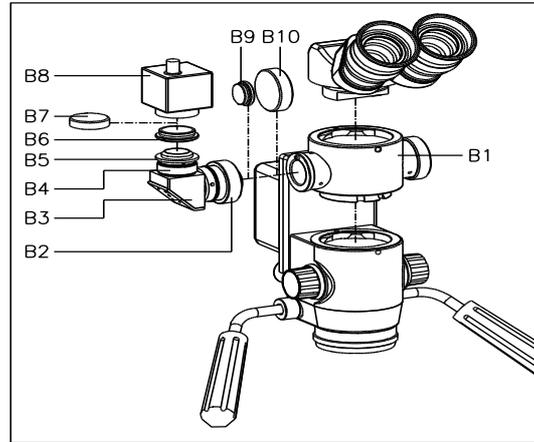

Fig. 6
- (6) Screw down the CCD with the CCD adapter [B3].
- (7) Connect the power plug to the appointed power.
- (8) Connect one end of the video frequency wire to the CCD signal fan-out. The other end should be connected to the Video In port of the monitor or video camera. Switch on the power after all have been done. Observe the image on the monitor and rotate the focus-adjusting ring [B4] to make the image clear. Attention to the orientation of the image. Rotate the CCD out by inches till the image's orientation is right if it is declining. Screw down the screw flange [B5] to lock it.
- (9) Fix the geminate ocular drawtubes to the beam splitter [B1] and screw the inner hexagonal tightening bolt [A3] by the 2mm inner hexagram screw drive. (Fig.6)